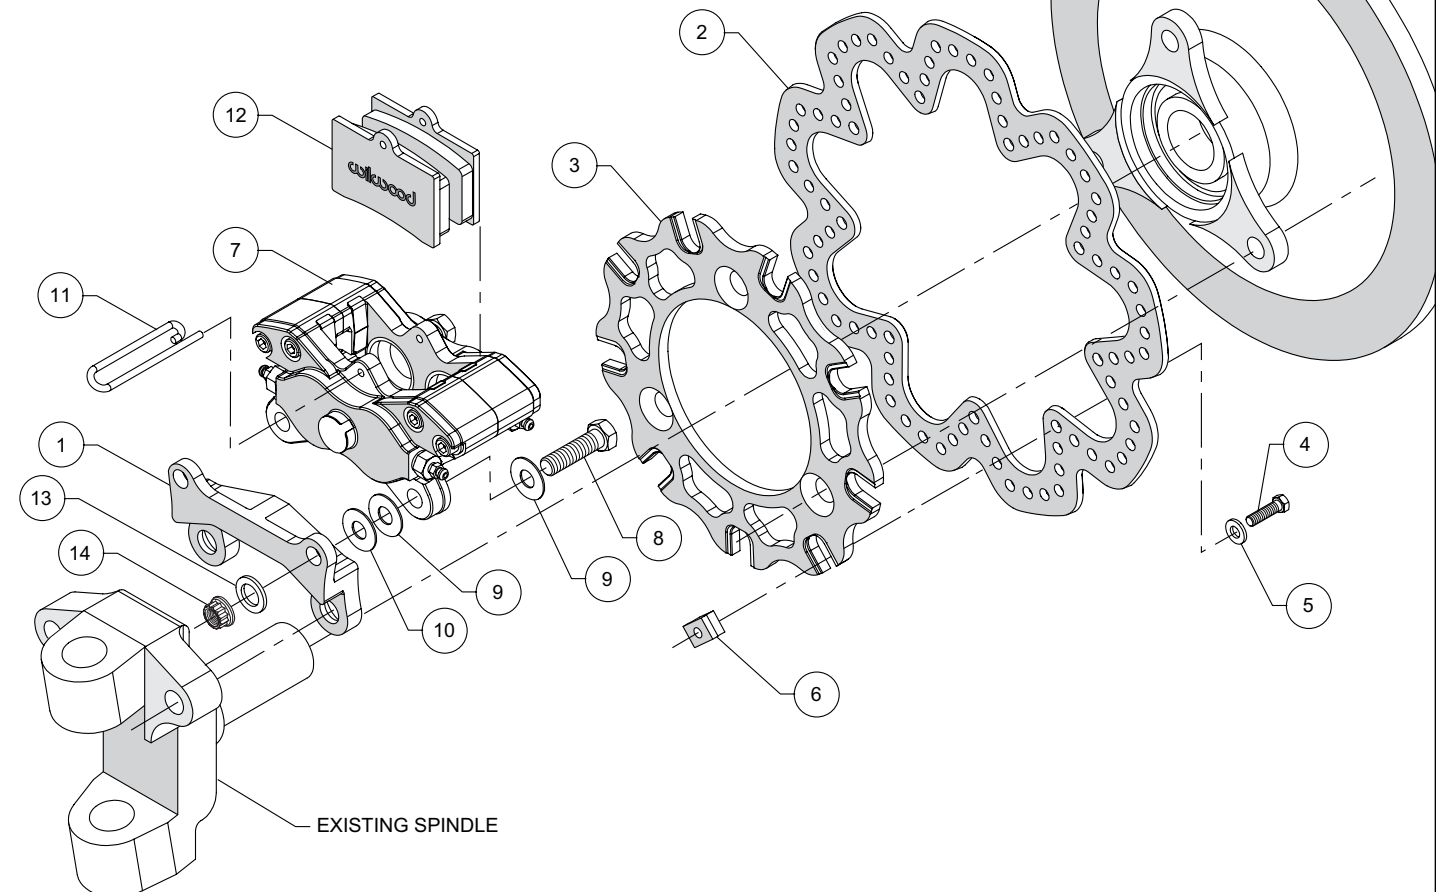

Figure 1. Typical Installation Configuration
NOTE: Numbers in parenthesis refer to the parts list and Figure 1 on the preceding pages. **CAUTION:** All mounting bolts must fully engage threaded holes.
- Orient the caliper mounting bracket assembly (1), as shown in Figure 1, and install using customer furnished hardware and red *Loctite*[®] 271. The bracket must fit squarely against the side of the spindle body. Inspect for interference from machining ridges, burrs, etc.
- Mount the rotor adapter (3) with the notched t-nut slots facing inboard to the rotor (2) using bolts (4), and washers (5) slid through rotor holes from the outboard side and into the t-nut (6). Apply red *Loctite*[®] 271 to the bolt threads and torque bolts (4) to 120 **in-lb**.
- Orient the caliper (7), as shown in Figure 1, and install on bracket using bolts (8), .035" shim washers (9), .063" washers (13), and locknuts (14), Figure 1. Initially place one .035" shim washer (9) between the caliper (7) and bracket (1). Temporarily tighten locknuts (14) and check that the rotor (2) is centered in the caliper. If not, adjust by adding or subtracting .035" shim washers (9) and/or .016" shims (10) between the bracket and caliper. Always use the same amount of shims on each of the two mounting bolts. Once the caliper alignment is correct, torque locknuts to 30 ft-lb.
- Remove the pad pin retainer (11) from the caliper (7). Slide the brake pads (12) into place. They should install easily without interference. Reinstall the pad pin retainer (11).